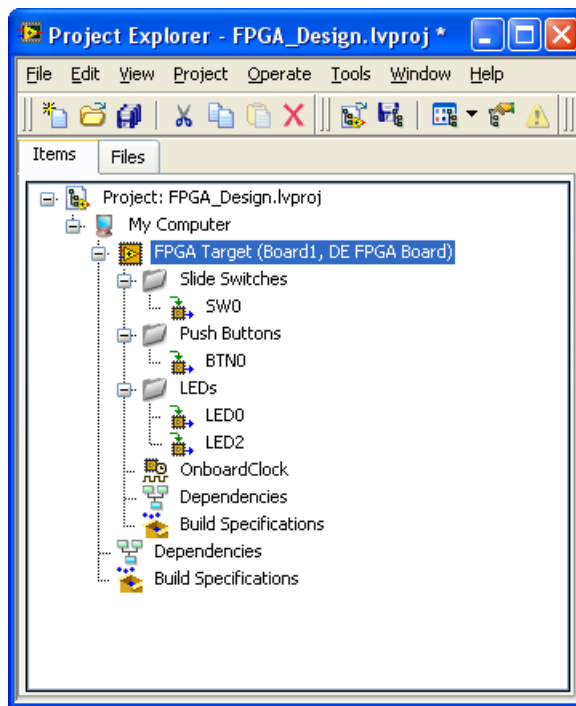

Figure 3-1. FPGA Target Tree with New FPGA Resources
7. Click **OK**. Notice that the selected FPGA resources were added to the FPGA Target tree in the **Project Explorer** window, as shown in Figure 3-1.